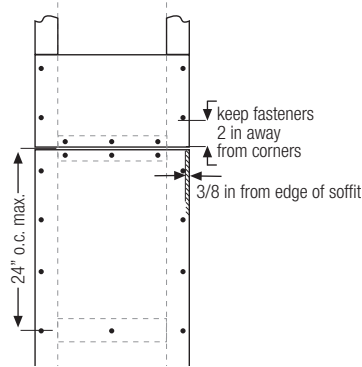
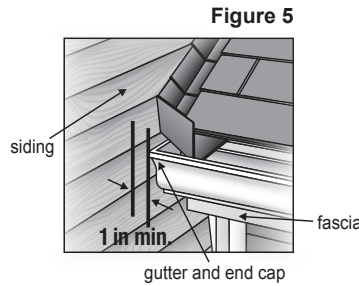

**Figure 3**
**Figure 4**
- All edges must be supported by framing. (figs. 3 & 4)
- Position fasteners 3/8 in from panel edges and no closer than 2 in away from corners when using soffit greater than 12 in wide (fig. 4) and no closer than 1 in away from corners when using soffit that is less than or equal to 12 in wide (fig. 3).